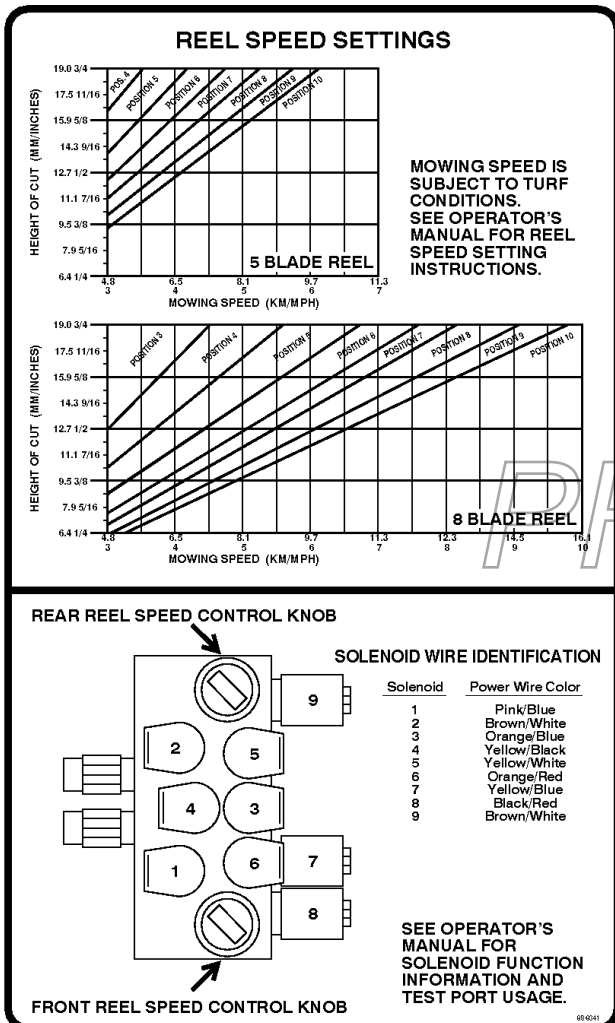

Figure 33
3. Using the appropriate graph (See graph figure 33) for 5 blade or 8 blade cutting units, determine the proper reel speed setting.